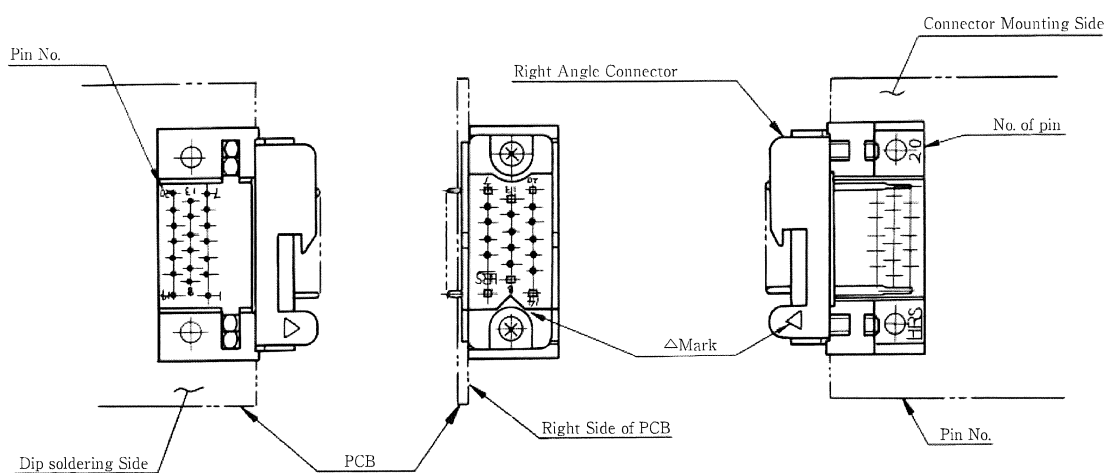

Fig. 2
2. It is possible to mount it on the right side of PCB but special caution is necessary to be opposite all pin locations on dip soldering surface. (Fig. 2)